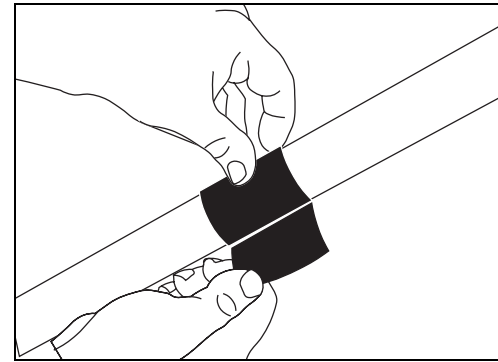

Figure 10: Install the mounting pad to the handlebar
4. Attach the neoprene mounting pad to the desired location on the handlebar. See Figure 10.